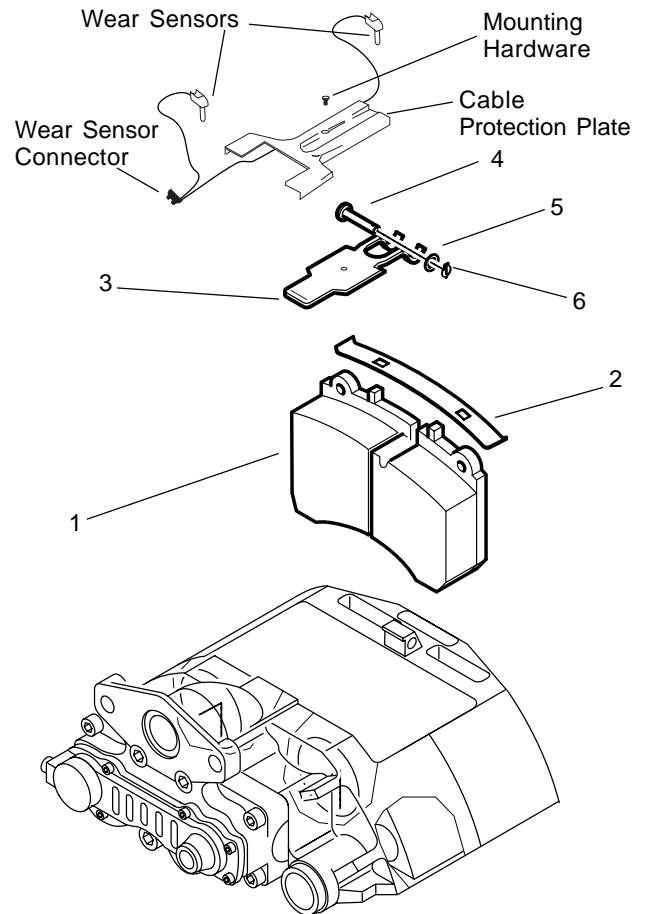
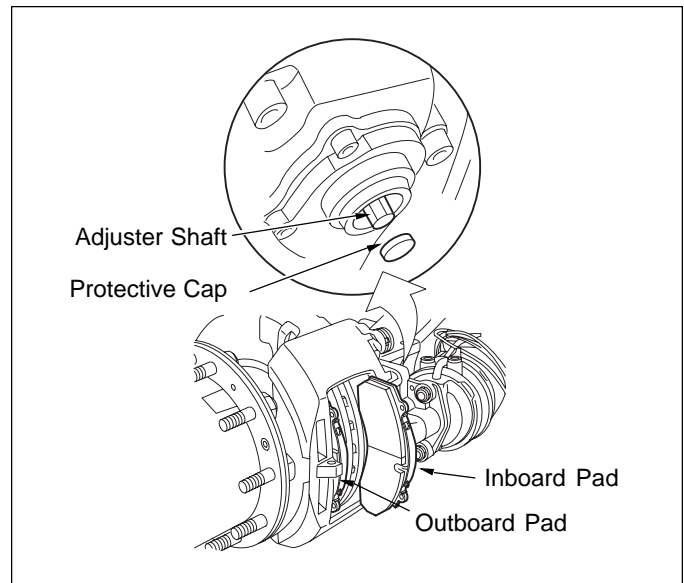

Figure 1 - Air Disc Brake Components
Figure 2 - Protective Cap Removal
1. If the air disc brake is equipped with clip sensor wear indicator (see Figure 1), remove and retain the mounting hardware for the cable protection plate. The cable protection plate can then be set aside while servicing the pads. Note the position of the sensors in the brake pad channels, and carefully remove them. In most cases you do not need to release the cable connector in order to move the sensors away from the pad installation work area. Inspect the wear sensors - replace if damaged or abraded.
2. Remove and discard the pin retention clip(6) and washer(5).
4. Remove adjuster cap to expose adjuster shaft (Figure 2). Note type of cap used.
7. Remove inboard and outboard brake pads (Figure 2).
9. Fit washer and then spring clip onto pad retainer pin (Figure 1).